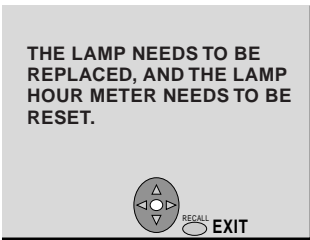

Fig. 5-2
1. If the Lamp time exceeds 5000 hours, when turning on the power (Lamp ON), the display as shown in Fig.5-2 appears for about 5 minutes and LAMP LED flashes.